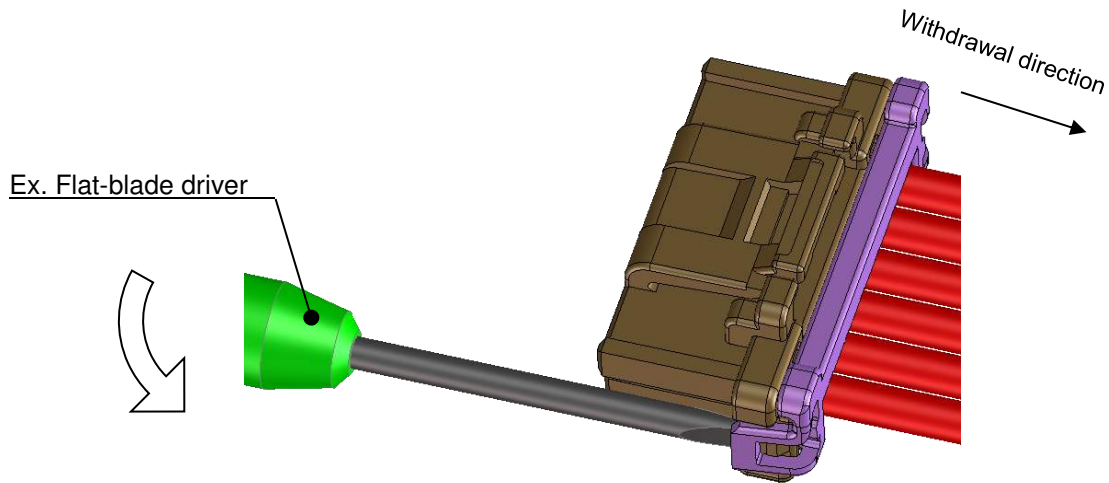

Fig.6-12
④ After loading, please confirm with eyes the following state is not found: the lock is over the nail of receptacle housing (Fig.6-11), the retainer is bending (Fig.6-12). Refer to Fig.6-10.
✗ **Fig.6-12 the state that the retainer is bending**